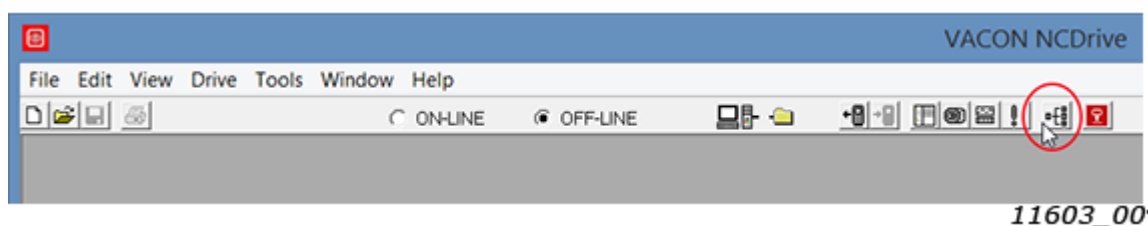

Figure 25. NC Drive: "Drive Select"
Step 2. In order to connect to the drive, you need to select the active drive first. Press the "Drive Select" button (see Figure 25) to scan the network drives.